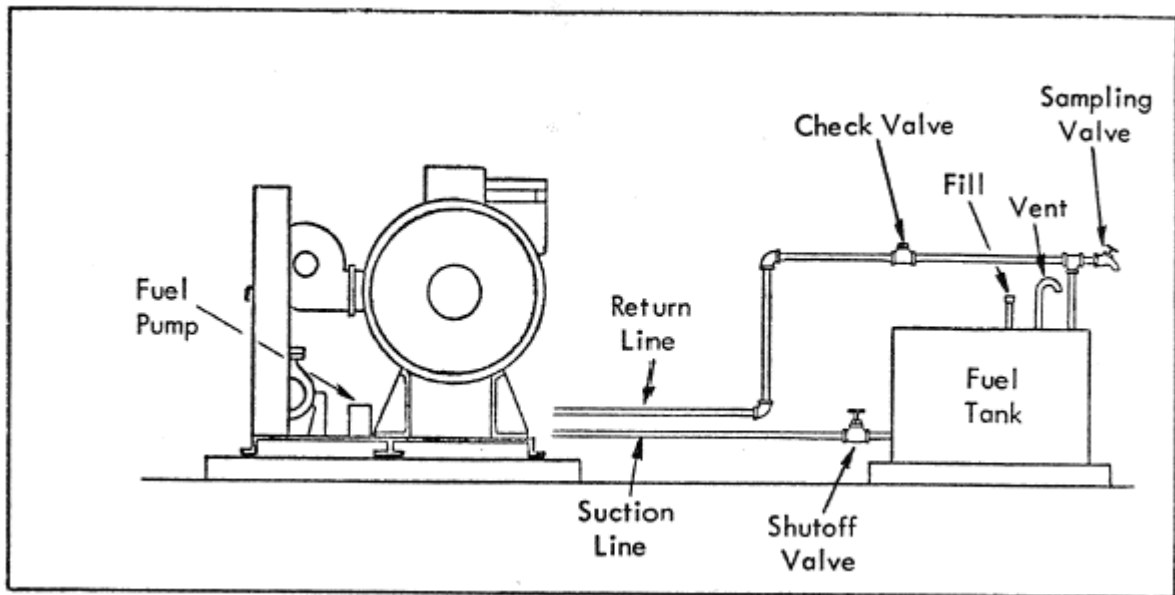

Figure 7, Fuel Tank Installation
8.1.5 If you use a floor mounted or an overhead tank, install a shutoff valve in the suction line ahead of the strainer to facilitate removal for cleaning. (See Figure 7)